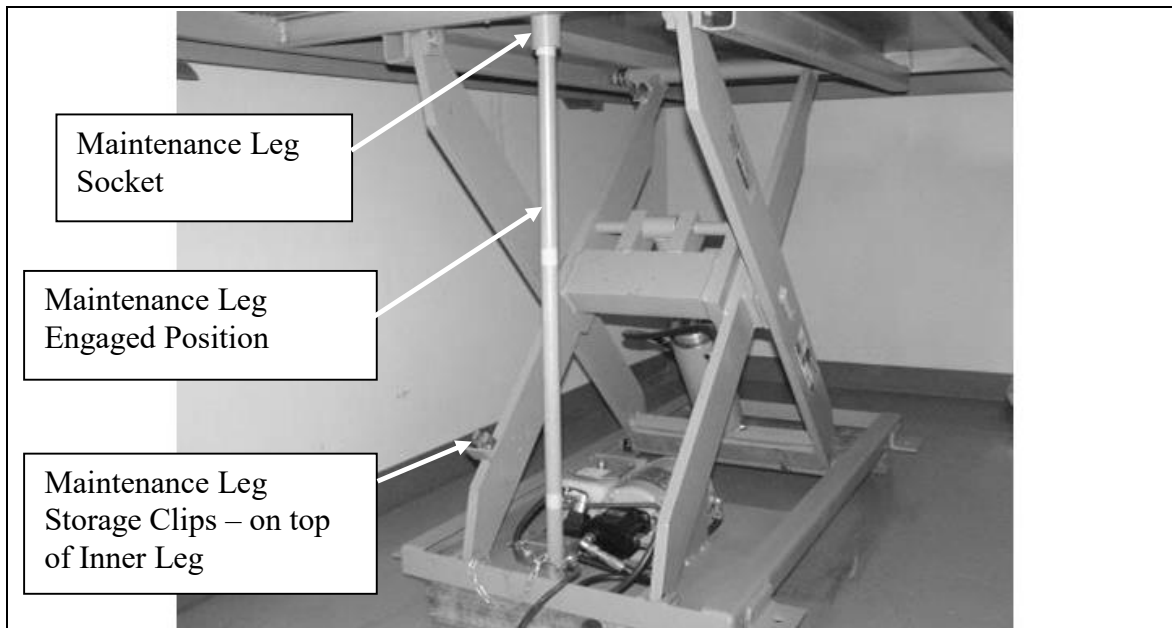
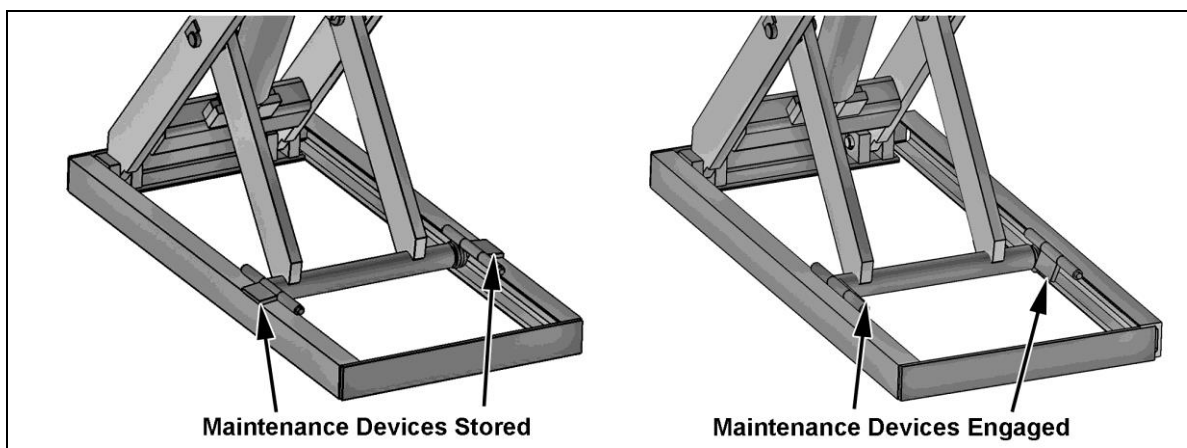
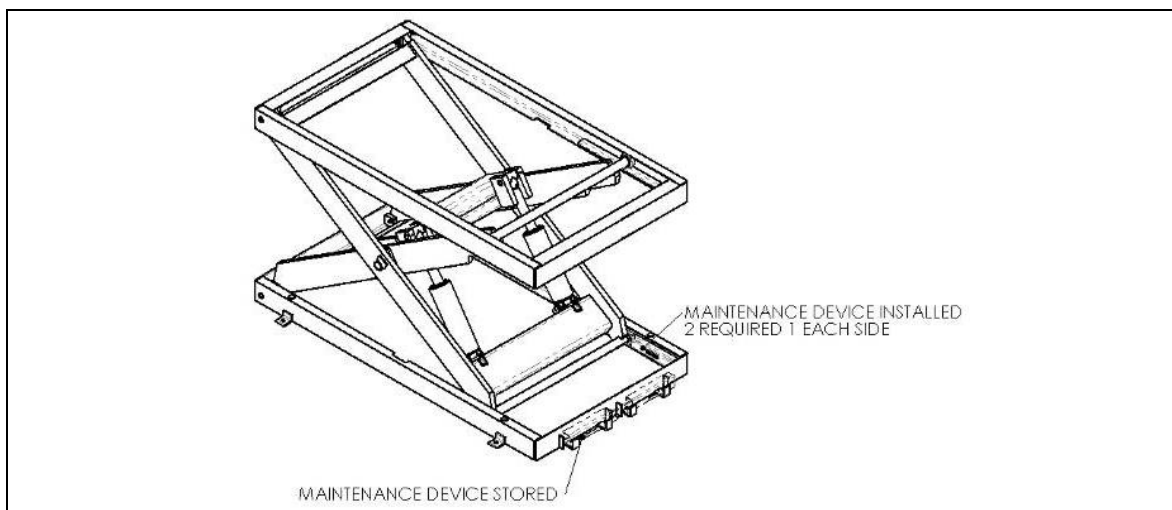

Figure 6.1
Figure 6.2
Figure 6.3
3. The lift will be provided with maintenance legs stored on one of the scissors arms, or with two (2) drop-in maintenance locks stored on the outside of the base frame, or with (2) flip-over style maintenance locks. The legs must be placed over pegs in top frame and within sockets in bottom frame (**See Figure 6.1**). The locks must be flipped over inside the base frame and thus in the roller path of the lift (**See Figure 6.2**). The blocks must be securely placed inside the base frame and thus in the roller path of the lift (**See Figure 6.3**).